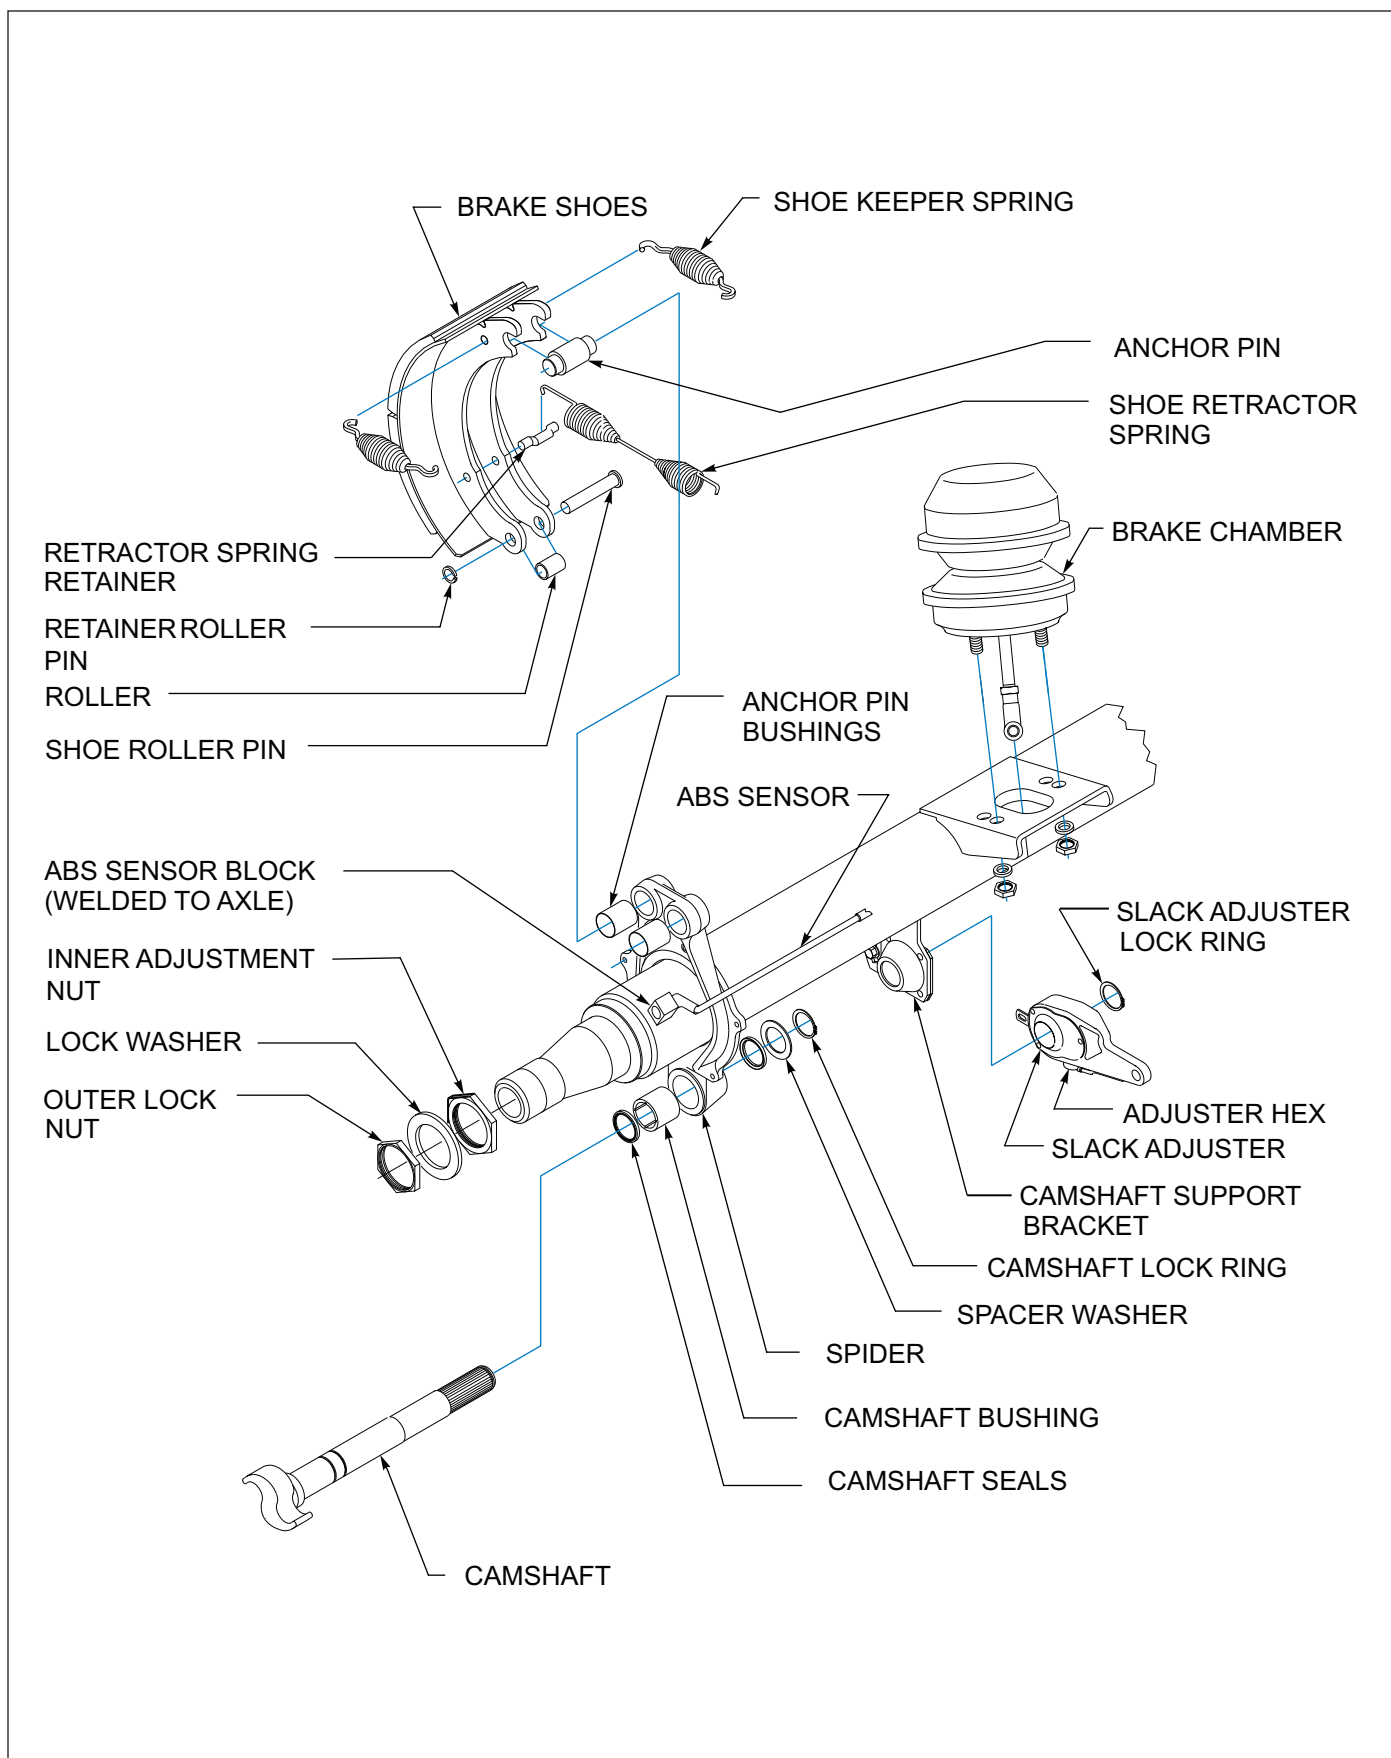

Figure 4-14: Axle and Brake Assembly
2. Remove slack adjuster lock ring and slack adjuster (See Figure 4-14.)
1. Release brakes and back off slack adjuster (*See Figure 4-14.*)